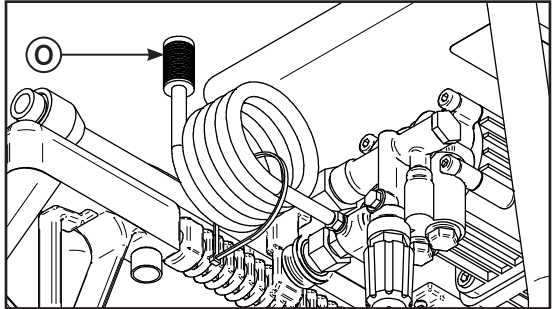

Figure 11
2. Insert the soap filter and hose (O on figure 11) in a liquid soap container.